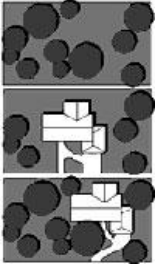

Figure 4. You may be able to save some trees by siting the new construction away from the center of the lot.
- **Select the trees to be saved.** Examine the site carefully and note how each tree fits into the future landscape. Keep in mind that the builder may be able to shift the location of a building, utility line, or driveway. Although local ordinances differ, driveways and utility lines don't always have to be straight, and homes don't always have to be in the center of the lot (Fig. 4). If considerable damage to the tree's root system within the PRZ is inevitable, you should seriously consider changing the original design, adding protection measures, or removing the tree before construction begins.